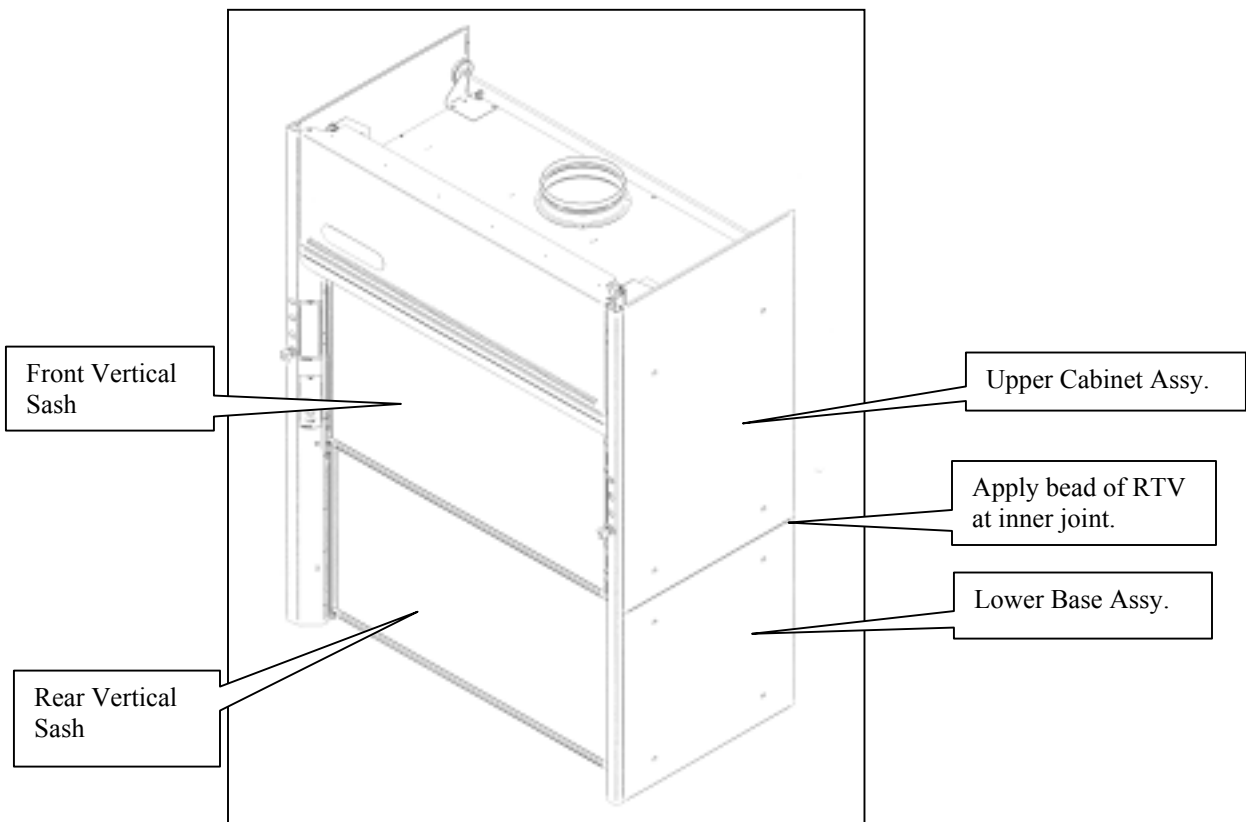

Figure 3-1
**NOTE:** If an optional floor surface is purchased, it should be positioned on the existing floor prior to placement of the lower cabinet installation. See Figure 3-1.